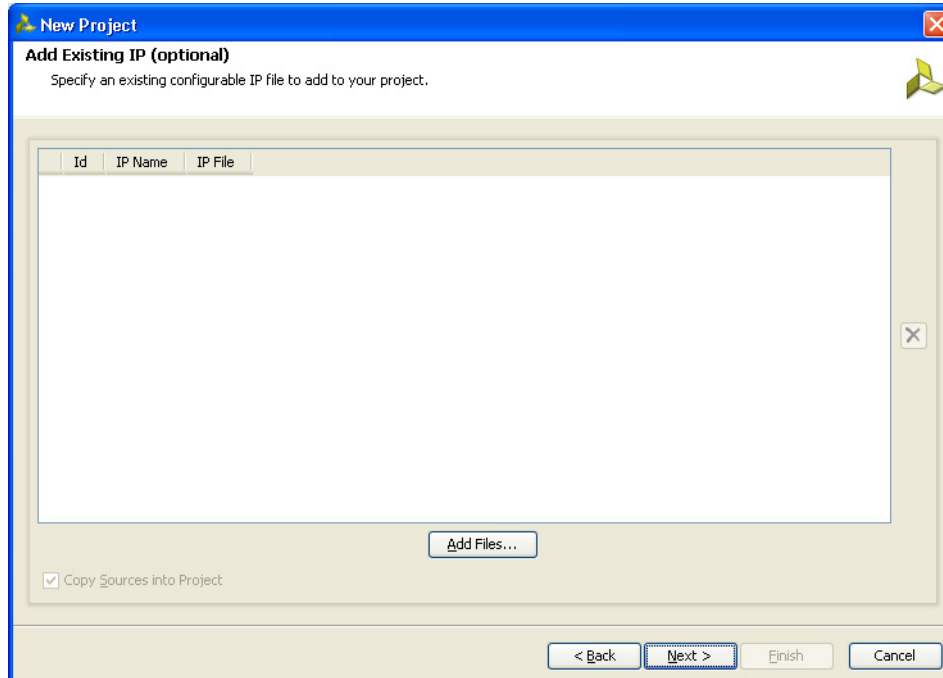

Figure 4-6: Add Existing IP (Optional)
6. Click **Next** to open the Add Existing IP (Optional) page (Figure 4-6). If the IP is already created, the XCI file generated by the IP can be added to the project and the previous created IP files are automatically added to the project. If the IP was not created earlier, proceed to the next page.